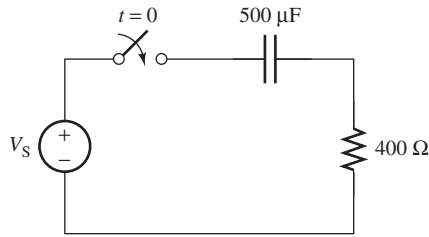

FIGURE P5.52 Circuit for Problem 5.52.
- 5.52 (A) The switch closes at $t = 0$ s. Find the expression of current flow for the circuit shown in Figure P5.52, if the voltage source is $v_S(t) = 10 \cos(200t)$.